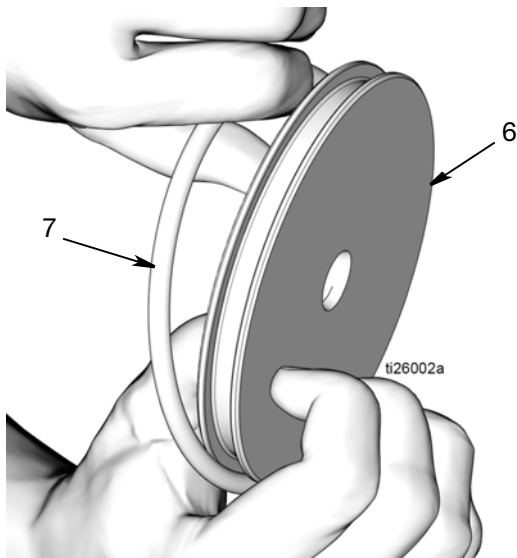

FIG. 21
- d. Remove o-ring (7) from piston (6) (FIG. 21).